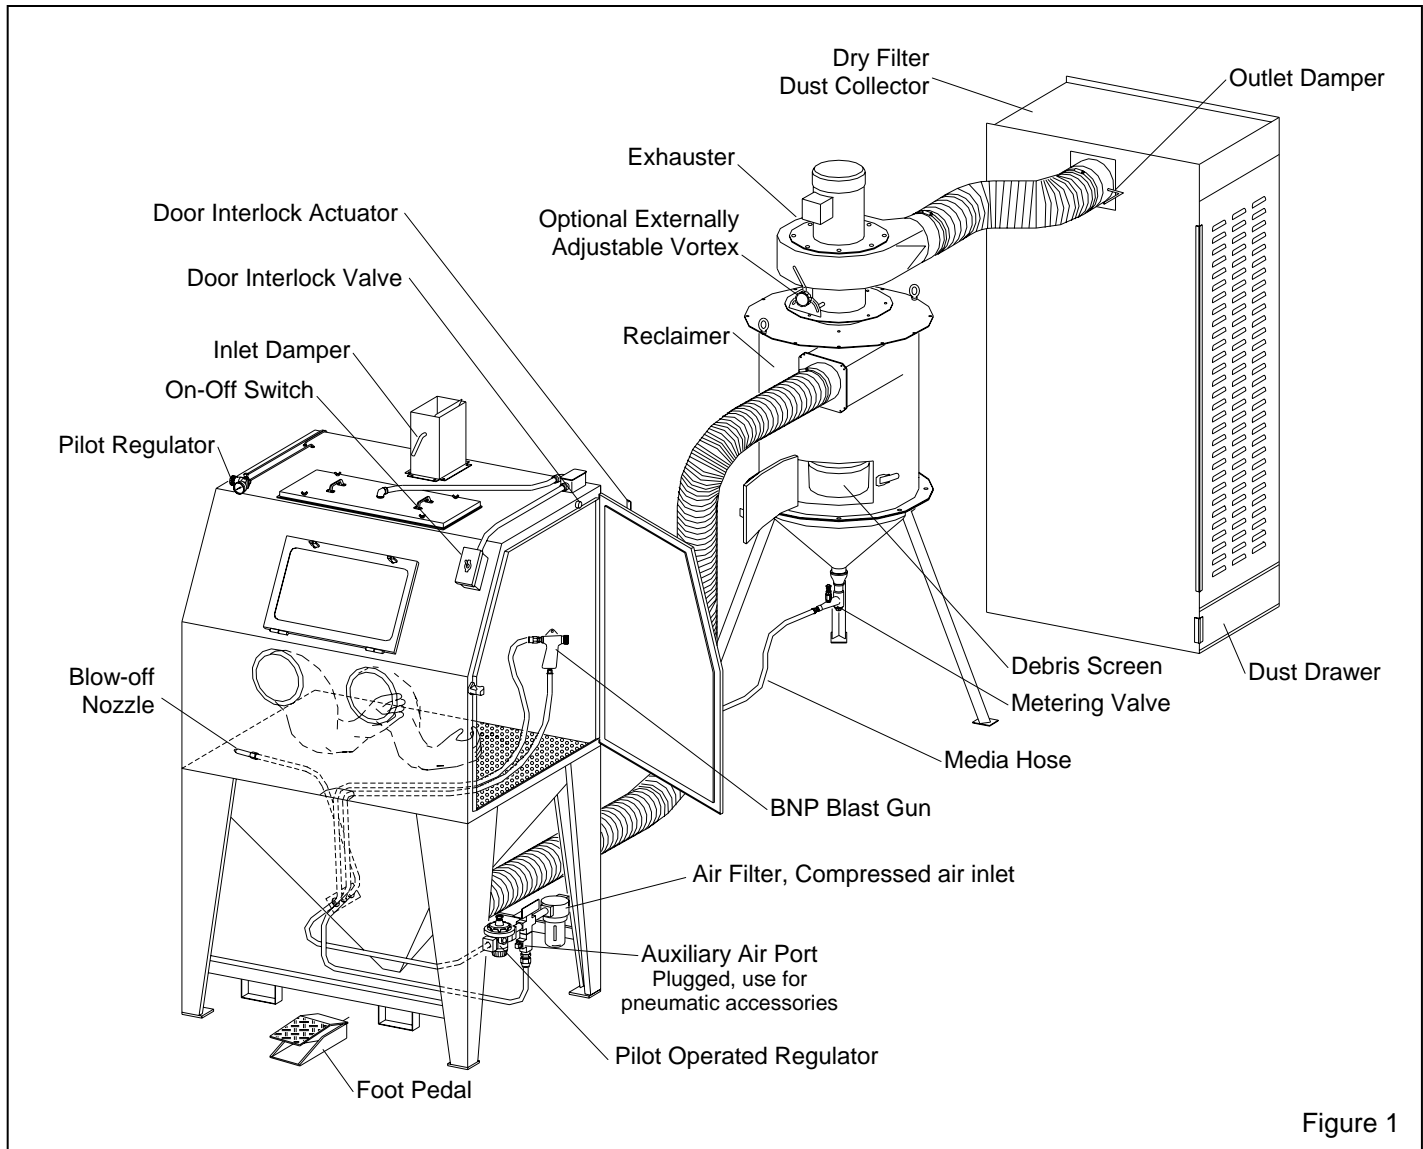
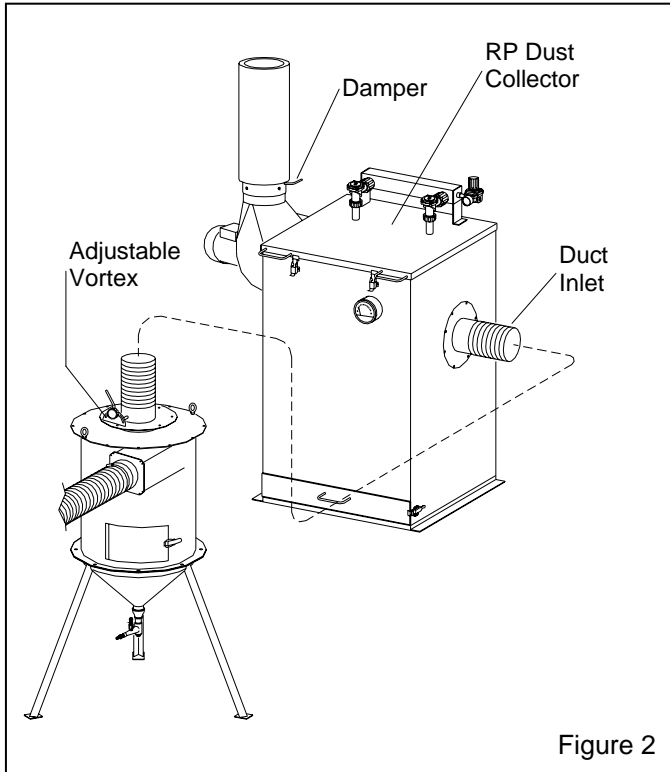

Figure 1
Figure 2
See Figure 1 for arrangement of components with a dry filter. A free-standing 900 reclaimer is shown, 300 and six hundred reclaimers are mounted on the back of the cabinet. Figure 2 shows the arrangement with a reverse-pulse dust collector.
2.1.1 See Figure 1 (and Figure 2 for optional reverse-pulse collector) for the general arrangement. Place all components in a convenient location where compressed air and electrical service are available. The cabinet location must comply with OSHA and local safety codes. Allow for full access to all doors and service areas, and for efficient handling of large parts. Provide enough clearance in front of the dust collector to remove the dust drawer without tipping. Place free-standing reclaimers directly behind the cabinet with hose connections toward the cabinet with as few bends as possible. Determine the best location, and position all units before final assembly.